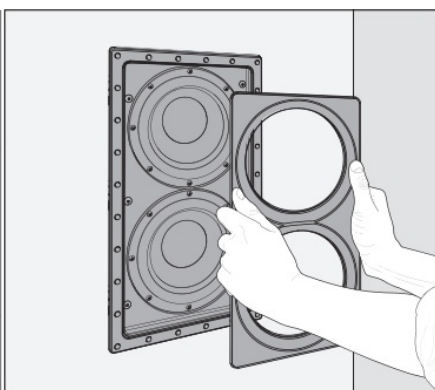

Fig. 4d
5. Gently press the baffle onto the front face of the speaker (Fig. 4d). The magnets will ensure correct attachment.